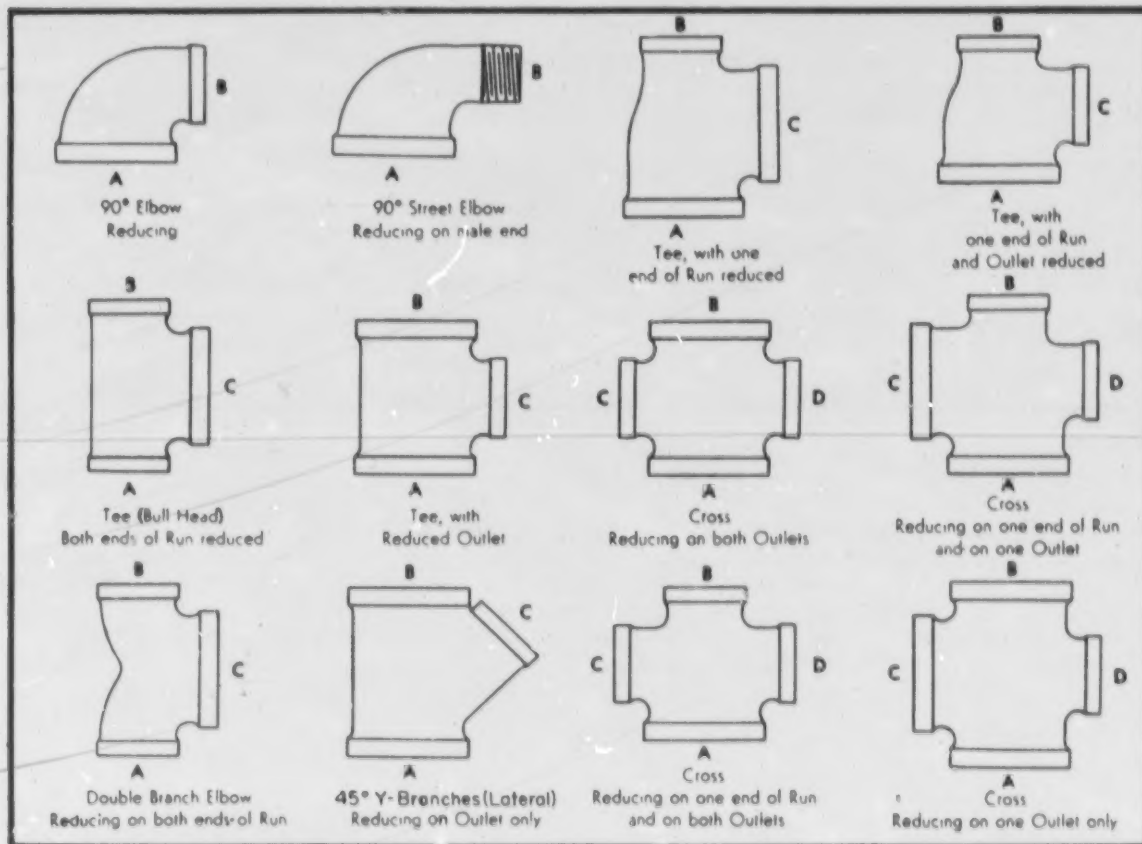

Figure 4-33. — How to read fittings.
For example: A cross having one end of run and one outlet reduced is designated as 2 1/2(A) x 1/4(B) x 2 1/2(C) x 1 1/2(D), simply by naming the largest opening first and then naming the other openings in the order indicated. (See fig. 4-33.)
In designating the outlets of side outlet reducing fittings, the size of the side outlet is named last. Refer to figure 4-33.